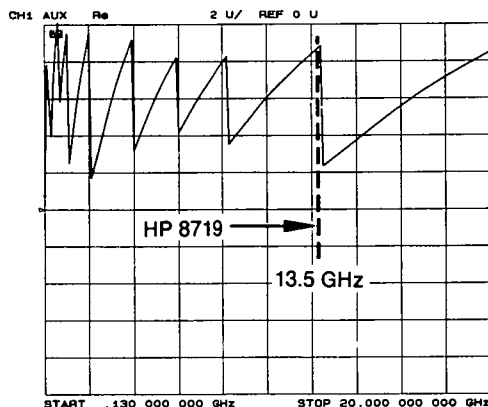

Figure 3. Fractional-N Tuning Voltage Waveform at Abus Node 21
Fractional-N Checks With ABUS. Press [2] [1] [x1] and compare the fractional-N tuning voltage to Figure 3.
- If the voltage waveform resembles Figure 3 but the counter values do not match Table 1, A14 is almost certainly faulty.